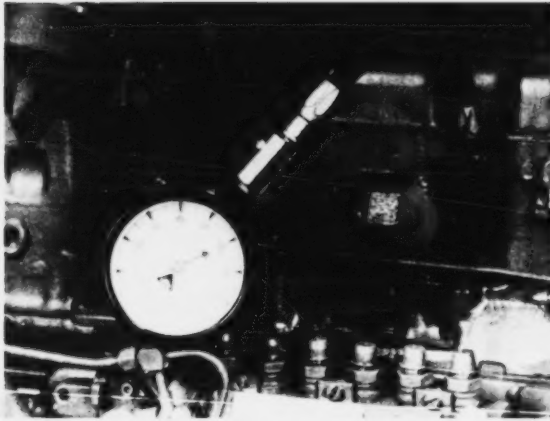

Fig. 39—Checking Engine Compression With A Pressure Gauge
3. Connect a pressure gauge to the cylinder port (Fig. 39).